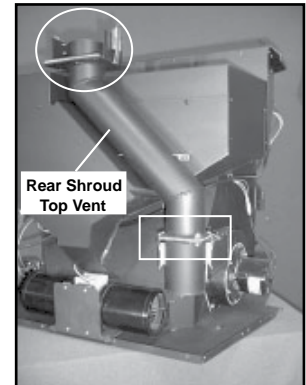

Figure 18.3
3. Use (2) 1/4 - 20 x 3/4 inch bolts with nuts to install rear shroud top vent to the exhaust transition. See boxed area in **Figure 18.3.** (Circled area, top vent adapter, will be installed later).
7. **For Top Vent Installation:** Install 3 inch or 4 inch (76 or 102mm) top vent adapter. See circled area in **Figure 18.3 on page 18.** NOTE: This adapter may be attached to outside venting prior to latching it on to the top vent pipe.